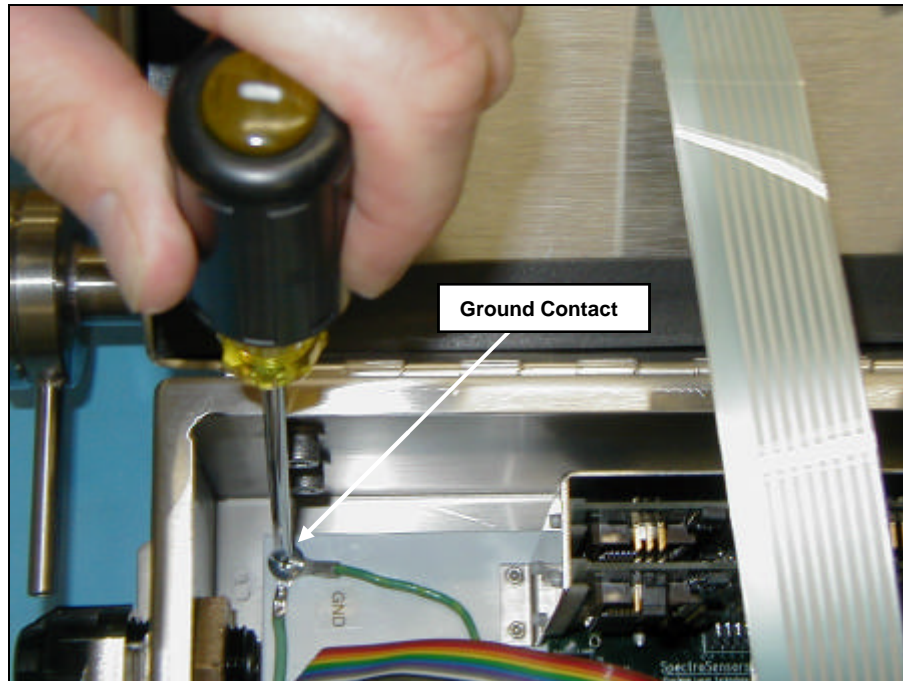

Figure 5 Connect the green wire to the ground contact in the lower left corner of the enclosure.
8. Remove the grounding screw at the bottom right of the electrical panel. See figure 5. Insert the screw through the ring terminal on the green wire of the power cord, through the ring terminal of the internal grounding wire, and tighten it into the panel.